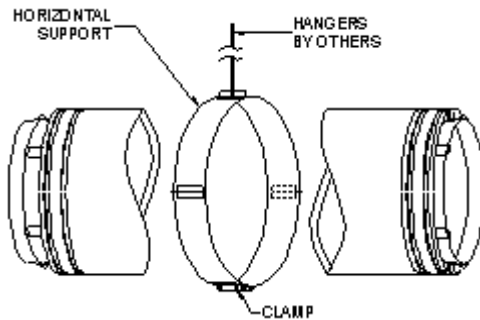

Figure 1
Saf-T Vent CI Plus must have supports for every six (6) feet of horizontal run and after every transition from vertical to horizontal. For large diameters, 24"-32" use parts numbered CCM24HZS - CCM32HZS. The support may be attached from the center bracket, figure 1 or attached to the side brackets, figure 2. Support hangers by themselves do not maintain the necessary clearances to combustible materials; be sure to consider clearances when planning the system. For 4" thru 24" diameters use support clamp part number 4627SS-42627SS and attach as appropriate.